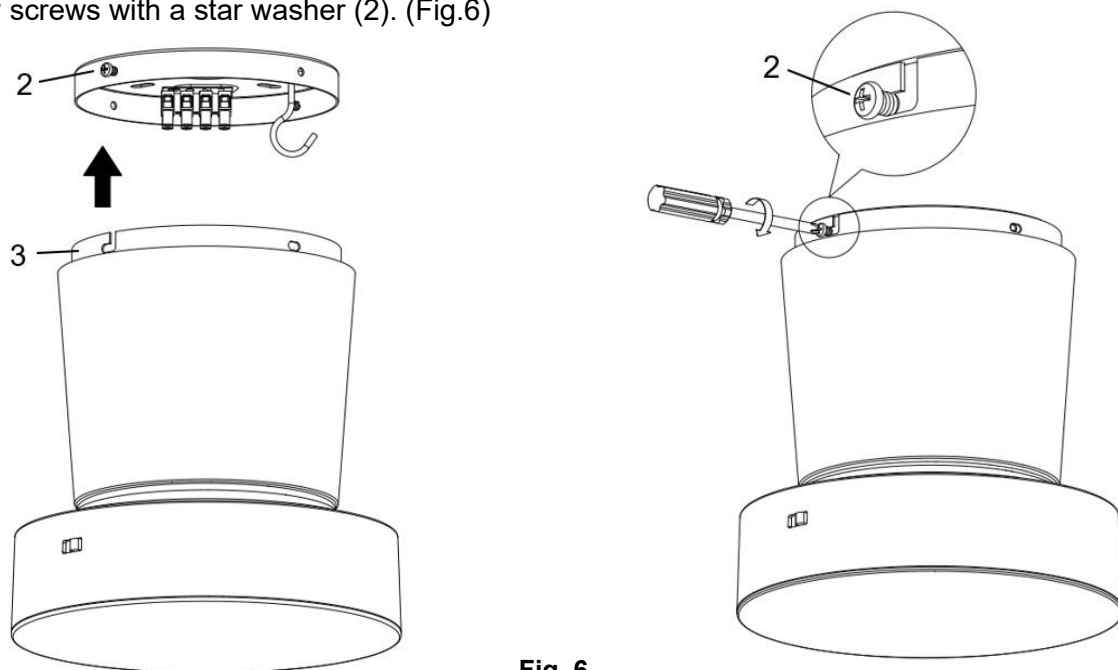

Fig. 6
- Loosen two canopy screws with a star washer (2) by half a thread from the mounting bracket. (For the L-shape slot on the canopy to be mounted).
- Loosen two canopy screws (1) and remove from the mounting bracket.
- Lift the hanging canopy (3) of the fan assembly to the mounting bracket and let the L-shape slot on the hanging canopy go through the two canopy screws with a star washer (2). (Fig.6)
- Turn the hanging canopy (3) until it locks in place at the end section of the L-shape slot, ensuring the star washers are between the hanging canopy (3) and the screw head. Secure it by tightening the two canopy screws with a star washer (2). (Fig.6)